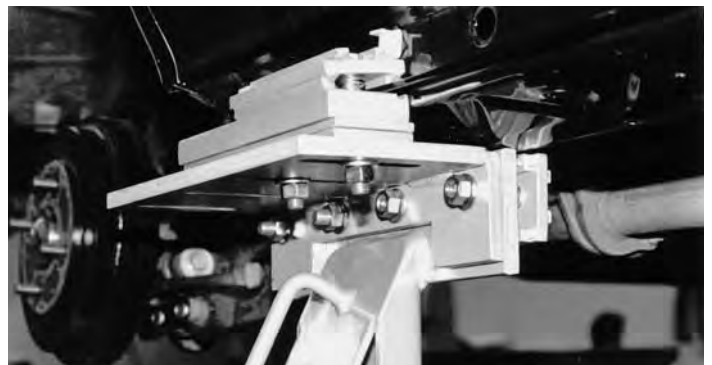

Figure 13
9. Repeat Steps 3 — 8 when installing rear anchoring Stand on same side of vehicle. Figure 13 shows the anchoring assembly at rear of center section.